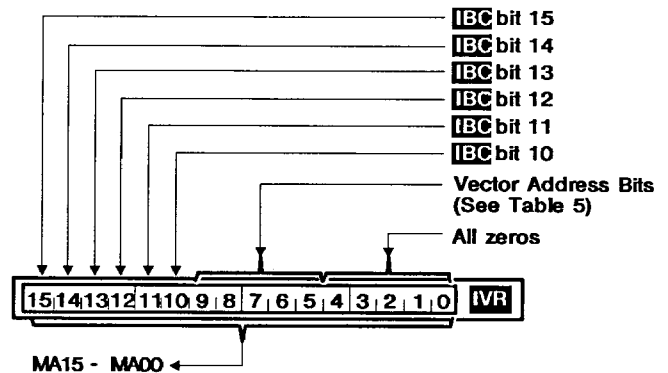

FIGURE 6. INTERRUPT VECTOR REGISTER ( **IVR** )
**IVR** (Read Only): The **Interrupt Vector Register** holds the current Interrupt Vector value. See Figure 6 and Table 5.